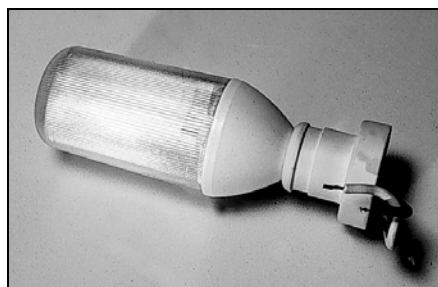

FIGURE 3. Compact fluorescent in a moisture resistant fixture. (Source: Agviro, Inc.)
Compact fluorescent (CF) lighting systems provide good energy efficiency and can easily replace incandescent fixtures. There are 2 main types: *electronic ballast* and *electromagnetic*. (See *Figure 3*.)